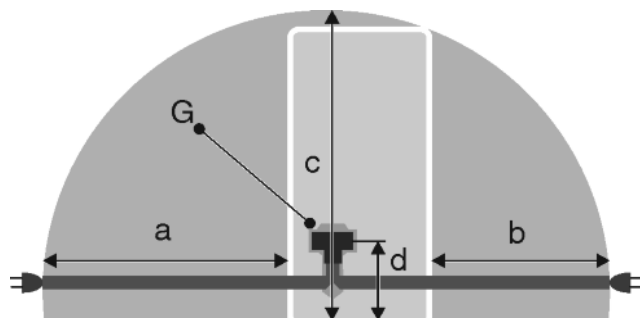

Fig. 41
- The socket is outside the back of the appliance area in the specified area *Fig. 41 (a, b, c)*.
- Insert the appliance plug *Fig. 41 (G)* into the back of the appliance. Ensure that it clicks into place.